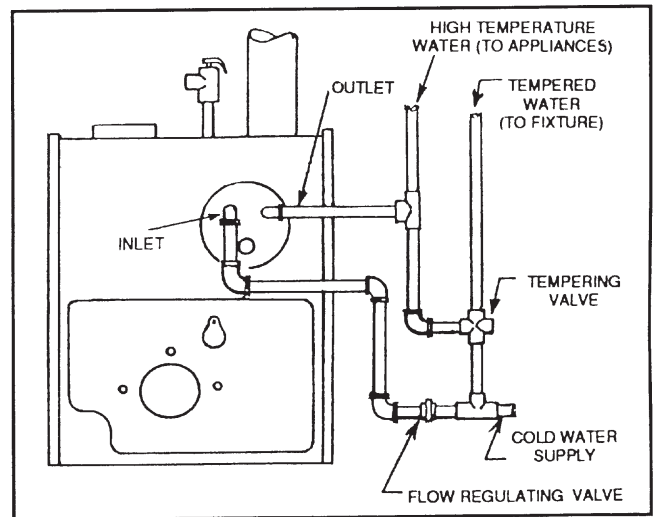

Figure 6. Recommended Piping to Tankless Heater
- II. Pipe the built-in tankless heater using the inlet and outlet tapings indicated on the heater (figure 6).
- All readings MUST be taken at the test port in the flue adapter. See Figure 6 for test port location.